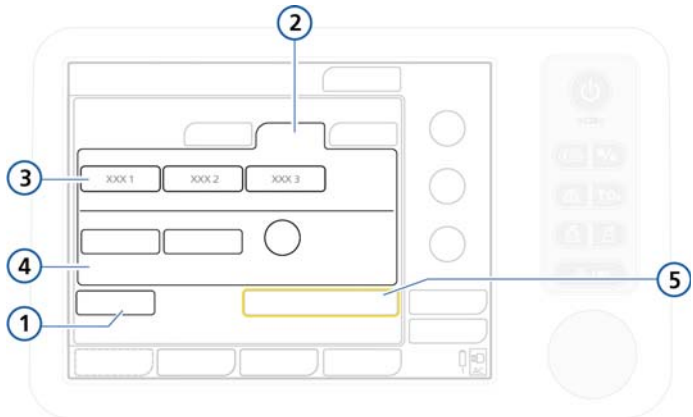

Figure 4-2. Patient setup/Standby window (adult/pediatric)
After you initiate ventilation, the patient setup window is displayed (Figure 4-2), with default settings selected. Select, adjust, and activate the desired items.
- **Adult/Ped.** For adult and pediatric patients (Figure 4-2). See Table 4-1 for age and weight ranges.